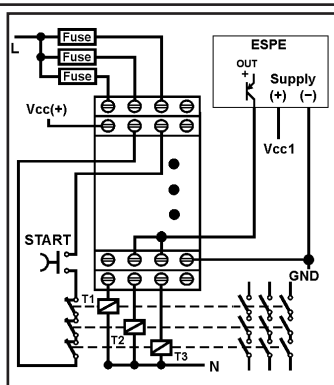

Fig. 5: ESPE: 1 uscita PNP a 1 filo /
- ESPE with one one-wire output (PNP-type or relay-type): connect the output to the S11 terminal; short-circuit the terminals S11 with S22, leaving S12 and S21 not connected (fig. 5, 6, max safety cat. 2).
In Fig. 5 and 6 are shown the connections of ESPE with 1 one-wire output: the ESPE output is connected to S11 and S22 is short-circuited to S11. The category of the application can reach up to category 2 according to the EN954-1 and EN13849-1 standards.